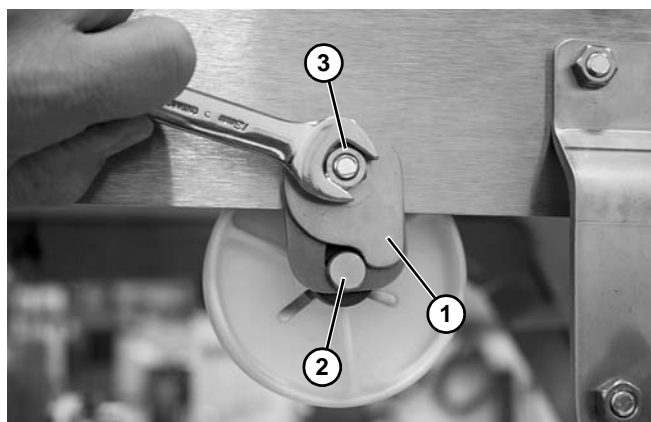

Figure 27
6. Rotate return clip (Figure 27, item 1) down against shaft (Figure 27, item 2) on both sides of conveyor. Tighten nuts (Figure 27, item 3).